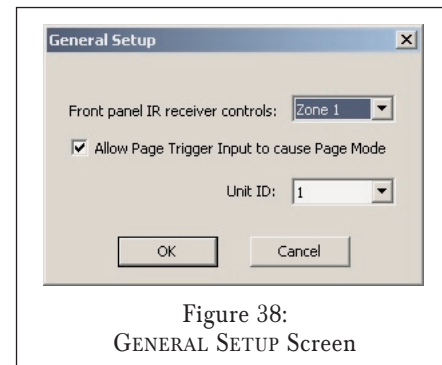

Figure 38:
4. Open the DEVICE menu and select GENERAL SETUP. The GENERAL SETUP screen (Figure 38) will appear.